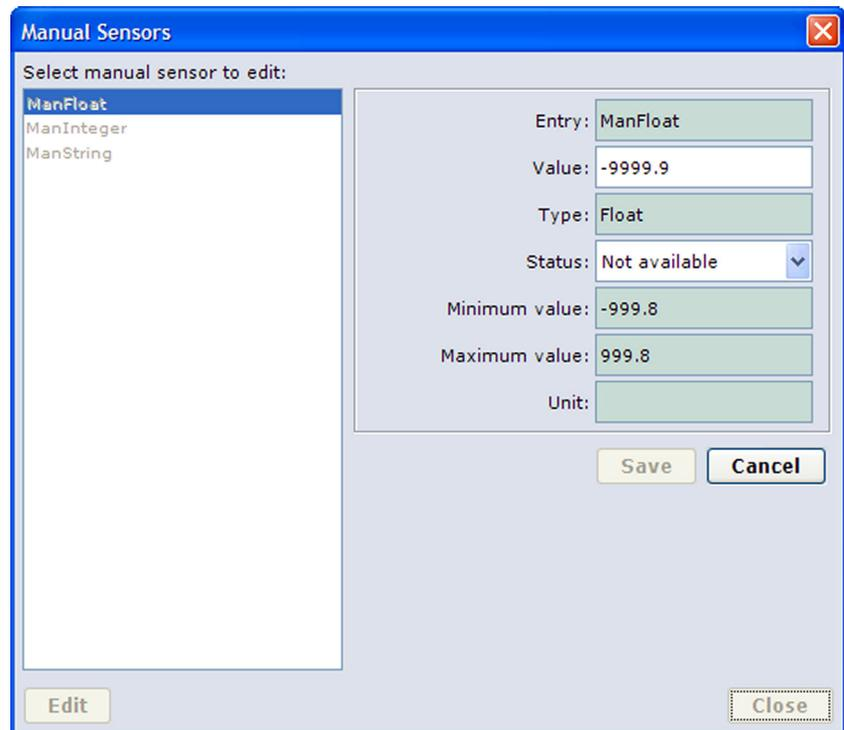

Figure 56 Entering Values for Manual Sensor
3. Select **Edit**. The information on the sensor is displayed (see Figure 56 on page 105).